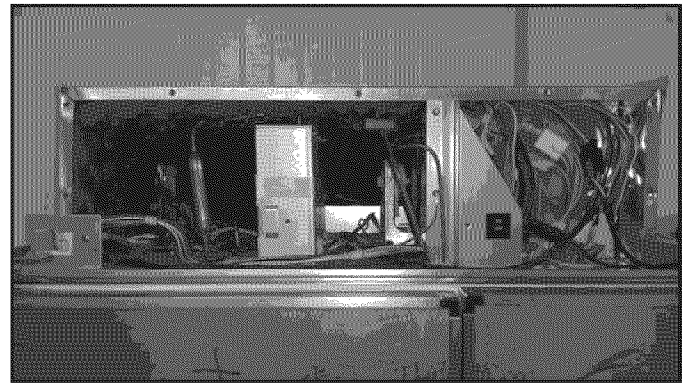

FIGURE 24
29. Reattach the dog house (top unit cover) removed in step 5. See *Figure 24*.